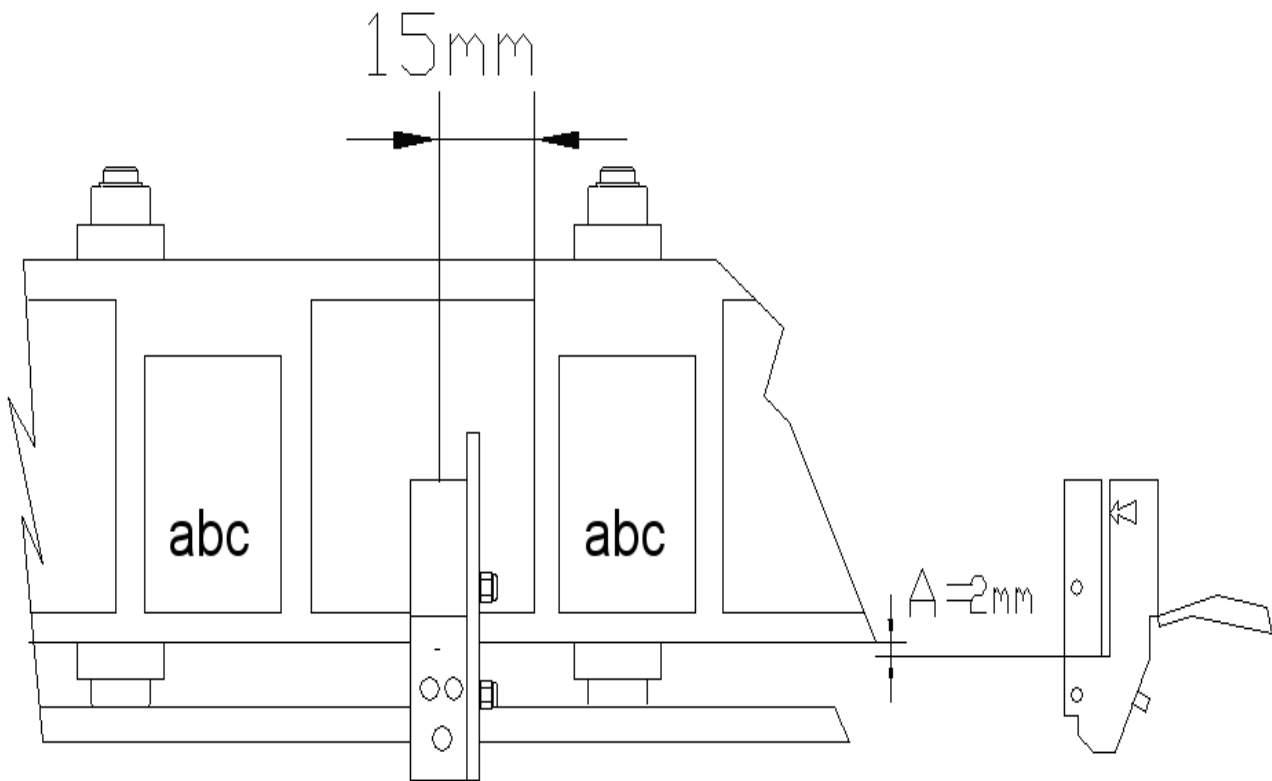

fig.5
- loosen the screws 8 and 9 and position the photocell at about 10-15 mm beyond the first space between the labels in the direction of the driving roller (fig.5): this is a rough regulation;